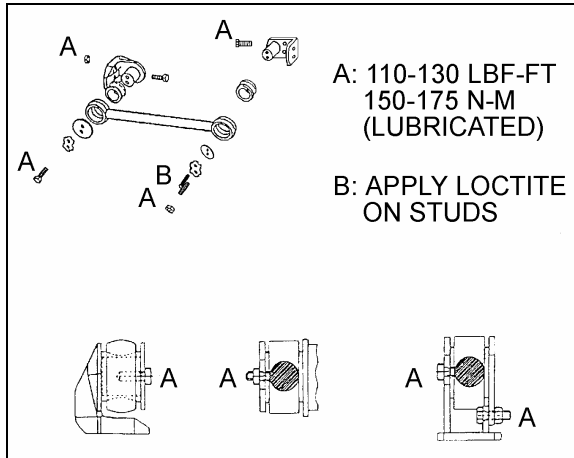

FIGURE 45: RADIUS ROD INSTALLATION 16028
1. Lightly spray the radius rod support with water. Place the radius rod end over the radius rod support (Fig. 45).